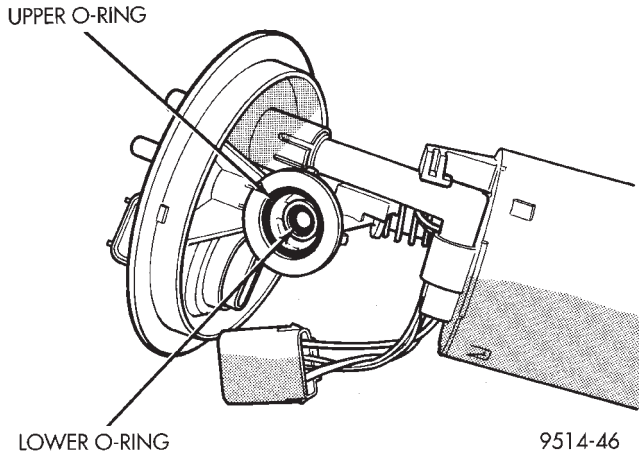

Fig. 19 Fuel Pressure Regulator O-rings
(1) Lightly lubricate the O-rings with clean engine oil and place them into opening in pump module (Fig. 19).
(2) Push regulator into opening in pump module.
(3) Fold tangs on regulator retainer over tabs on housing.